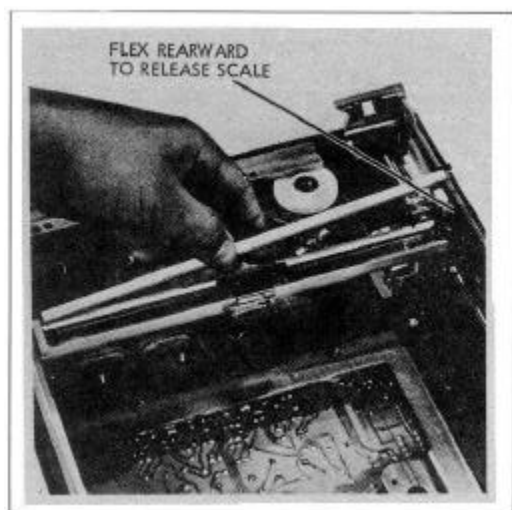

FIGURE 5-5. PEN SCALE REMOVAL
b. Unsnap pen scale at rear and remove from arm. See Figure 5-5.